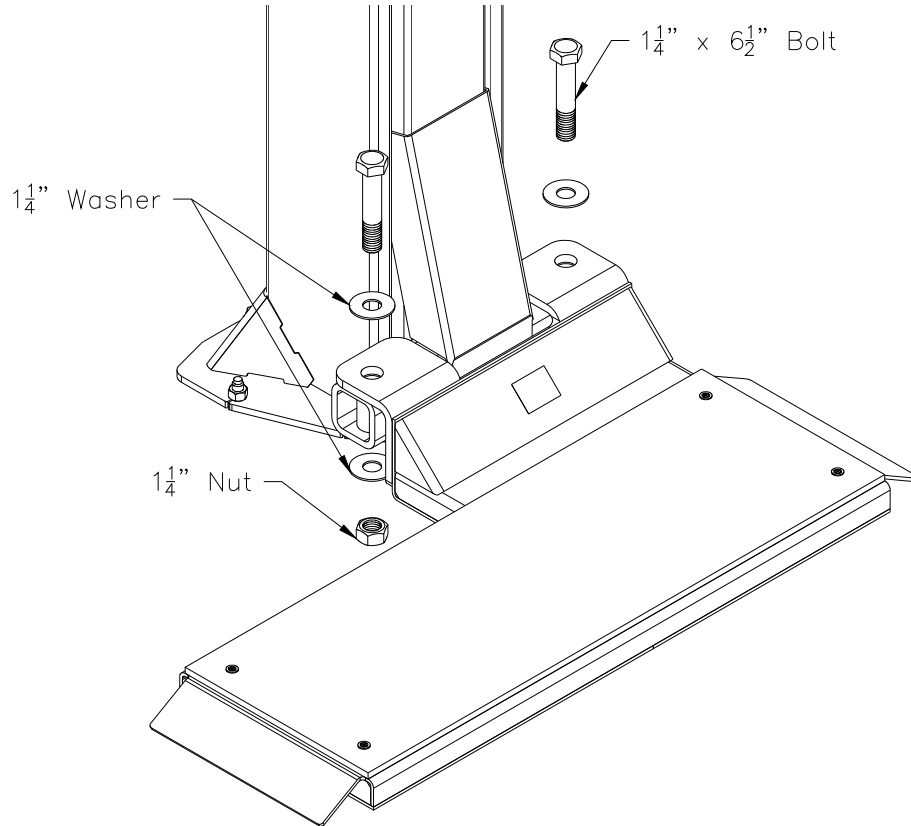

Figure 3
2. Using supplied hardware, install the Pad Adapters as shown in Figure 3. Note Pad Adapter orientation in Figure 2.